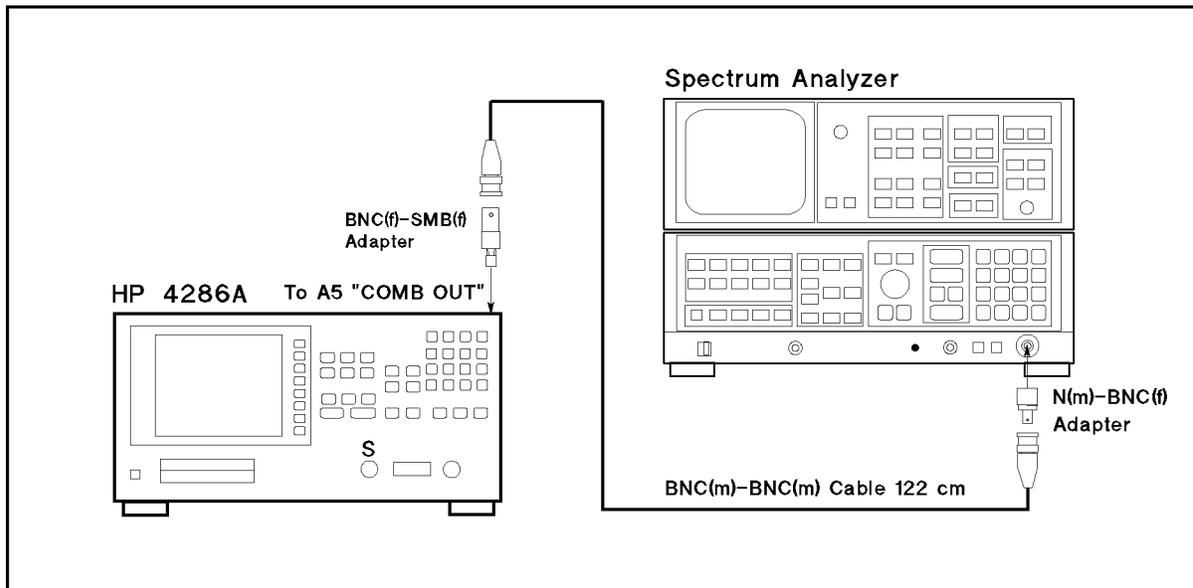
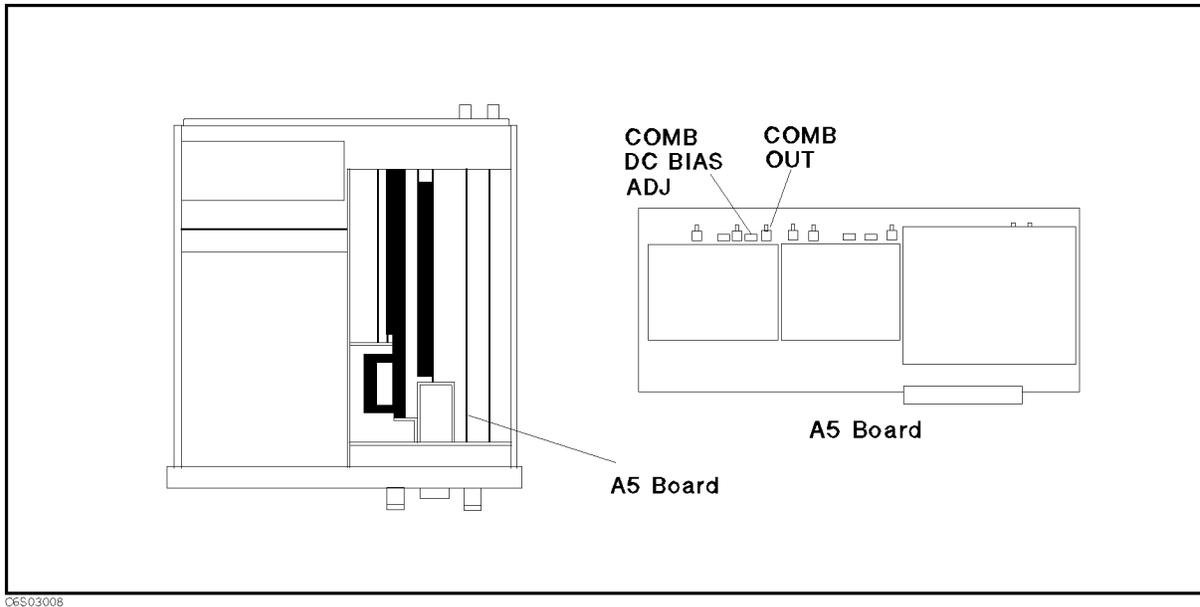

Figure 3-5. Comb Generator Adjustment Setup
Figure 3-6. Comb Generator Adjustment Location
2. Remove the SMB connector termination from the A5 "COMB OUT" connector, and connect the equipment as shown in Figure 3-5. The A5 "COMB OUT" connector location is shown in Figure 3-6.
The adjustment location is shown in Figure 3-6. A typical spectrum analyzer display is shown in Figure 3-7.